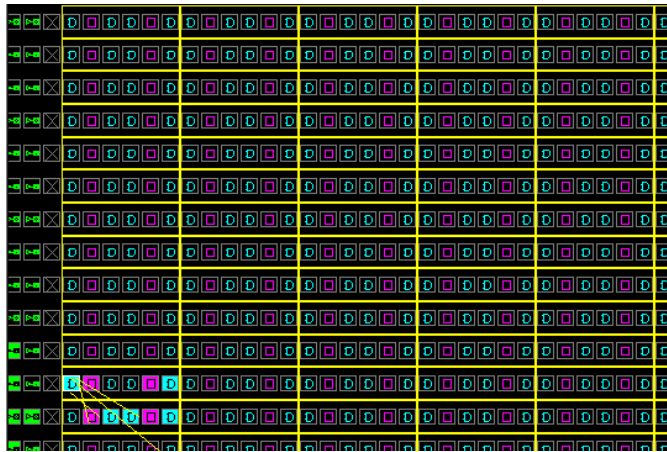

Figure 2-10. Cluster View
1. From the View menu, select *Static Objects* and click *Cluster Rect.* or *SuperCluster Rect.* The cluster areas appear in the ChipView window, as seen in Figure 2-10.